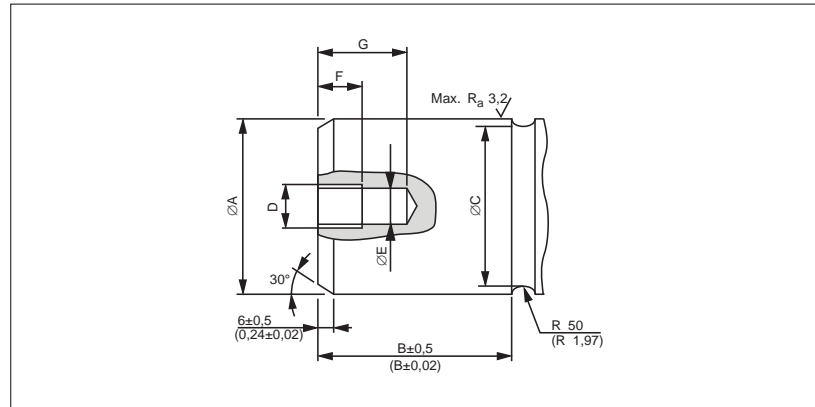

Figure 3.1
Where the driven shaft is heavily loaded and is subject to high stresses, for example on changes in the direction of rotation, it is recommended that the driven shaft should have a stress relieving groove; see figure 3.1 and tables 3.1 and 3.4.
**Table 3.4 Alternative thread (figure 3.1 and 3.2)**